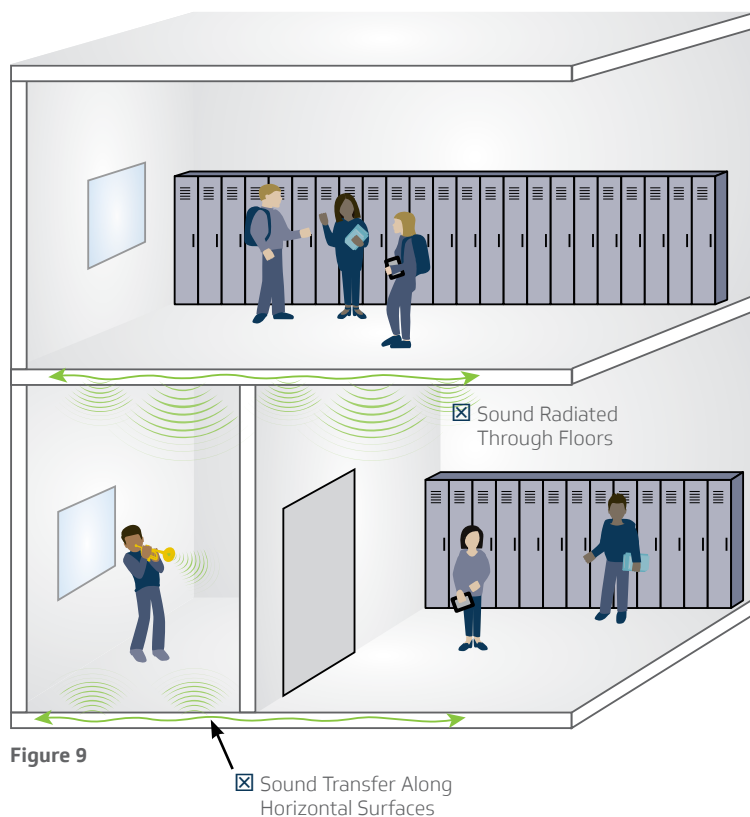

Figure 9
- a. If it is concrete (figure 9), sound isolation problems are probably the result of sound transmission from loud class activity on the floor above, adjoining areas, or from building machinery.